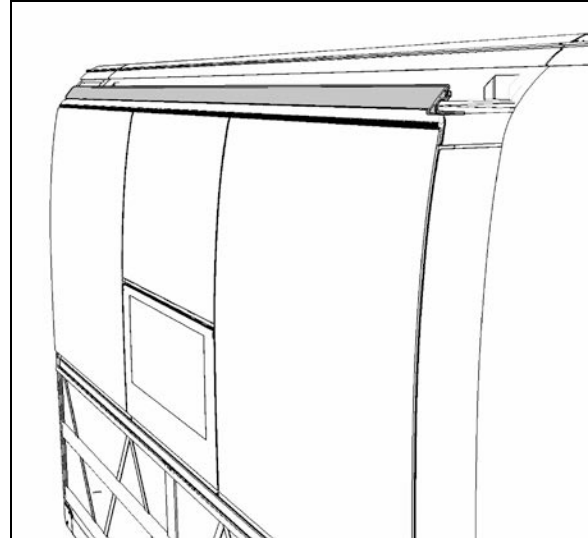

FIGURE 37 TOP EXTRUSION REMOVAL
3. Using a knife, cut the sealant between the Top extrusion and the roof. (Figure 37) Unscrew and remove the central exterior extrusion screws and the two end extrusion screws.